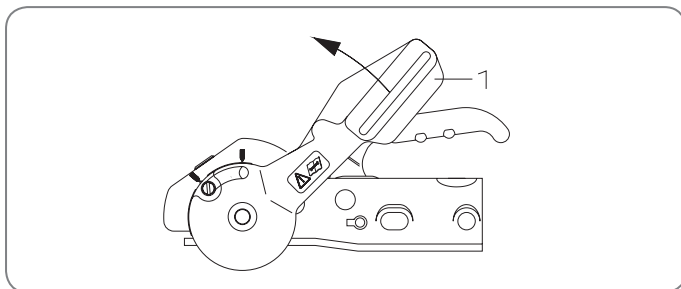
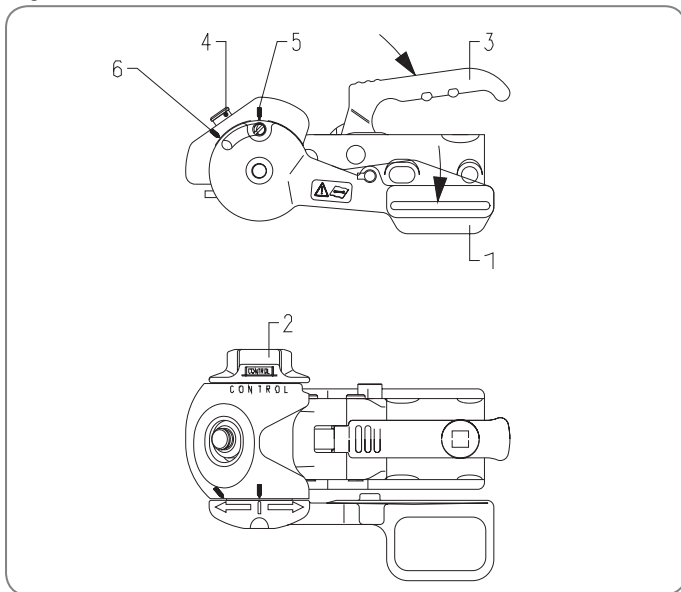

Figure 1.04
Figure 1.05
1. Before connecting the stabiliser arm (figure 1.04 (1)) must be completely up (open) and the knob (figure 1.05 (2)) must be unscrewed to the stop (anticlockwise).
2. Pull the handle (3) up. Place the opened coupling on the ball of your vehicle. The handle must slide back independently and audibly into the starting position. The handle (3) can then be pushed down by hand. Locking and securing then follow automatically.
3. Turn the hand wheel (2) (clockwise) until the torque limiter of the hand wheel can be heard and felt rattling. Press the stabiliser handle (1) down until the mark on the handle (5) is in line with the mark on the stabiliser housing.
Explanation of figures 1.04 and 1.05
1. Pull the stabiliser handle (1) up until the mark on the stabiliser arm is in line with the mark (figure 1.05); (6) on the stabiliser housing (end stop of the stabiliser handle).
Turn the hand wheel (figure 1.05; (2)) open up to the stop (anticlockwise).
2. Open the stabiliser arm (3) and remove the AKS from the